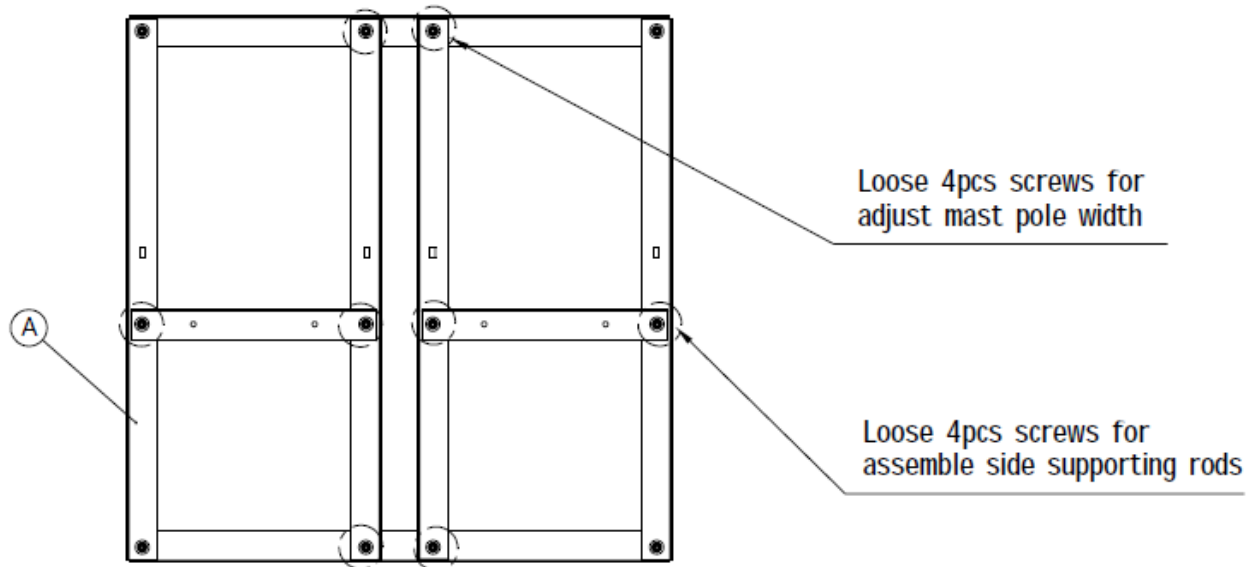

Figure 28: Loosening the ground mounting screws
2. Loosen the eight ground mounting screws shown in Figure 28 below. Loosening these screws will allow you to adjust the base (A) to fit snugly around each component that you secure to it in the steps below.